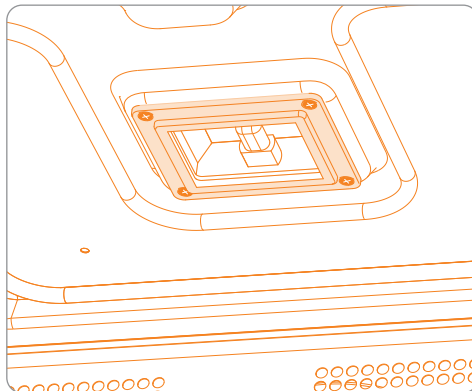

figure 3: light cover and screws
4. Carefully remove all four screws that hold the light cover in place. See fig. 3.